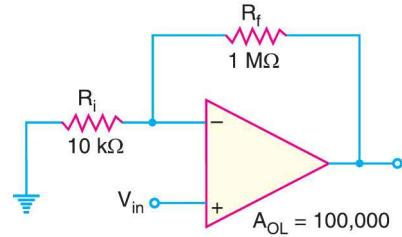

**Fig. 25.101**
7. For the circuit shown in Fig. 25.101, find (i) closed-loop voltage gain (ii) the instantaneous voltage across  $R_F$  when the signal voltage is +1V (iii) the instantaneous voltage on the –terminal when the signal voltage is +1V.